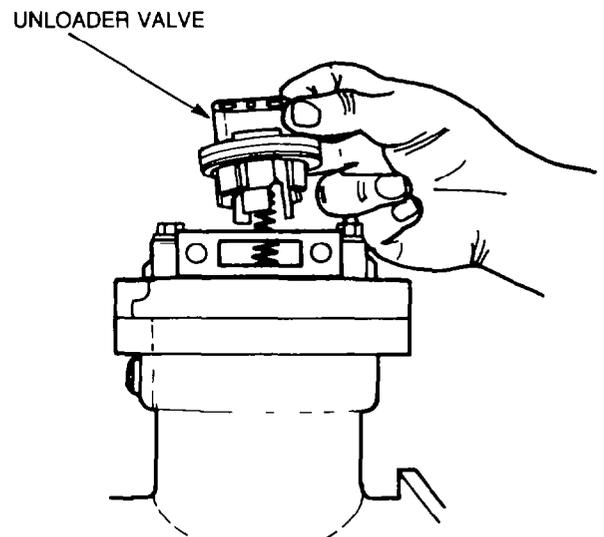

Figure 259 — Unloader Valve Assembly — Installation
- o. Place the unloader spring in the cylinder head, then position the unloader valve assembly over the spring and into the cylinder head cover. Secure the unloader valve assembly to the head cover with the two washers and bolts (see Fig. 259) and torque the bolts to 11-15 Nm (8-11 lb.ft).